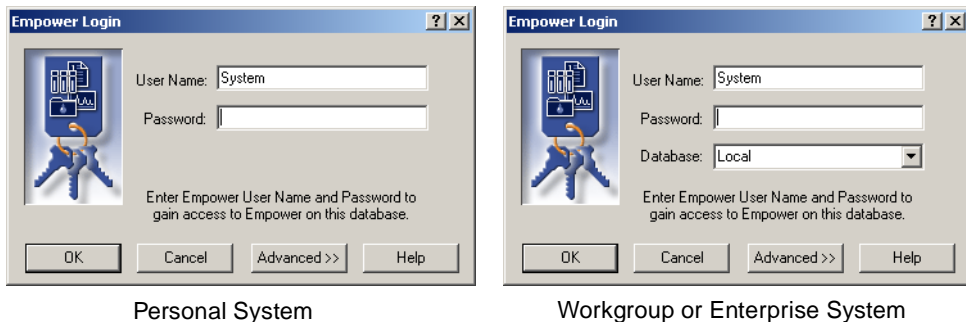

Figure C-1 Empower Login Dialog Box
1. Select **Start > Programs** (for Windows XP, **All Programs**) > **Empower > Empower Login**. The Empower Login dialog box appears (Figure C-1).